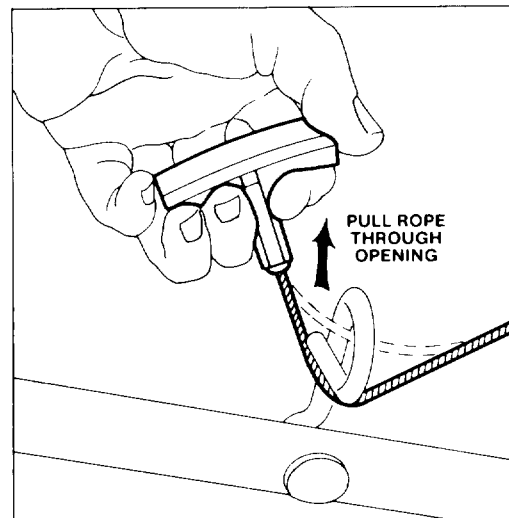

Figure 3
3. STARTER ROPE (Fig. 3) — Pull starter rope through opening in rope guide. By squeezing control bar (Fig. 6) against handle, blade brake will release and allow rope to be pulled easily up to rope guide.